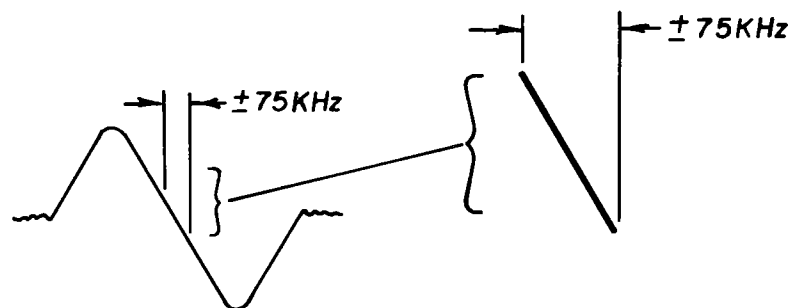

Figure 4
5. To align the FM Detector, with the FM generator connected as in Step 1, move the oscilloscope to the record output jack on rear panel. Reduce the modulation to $\pm 75\text{KHz}$ and connect a DC VTVM to the detector output (OUT 1). Adjust the top core of the detector transformer for a zero indication on the DC VTVM and the bottom core of the detector transformer for a maximum gain and linearity (see Figure 4).